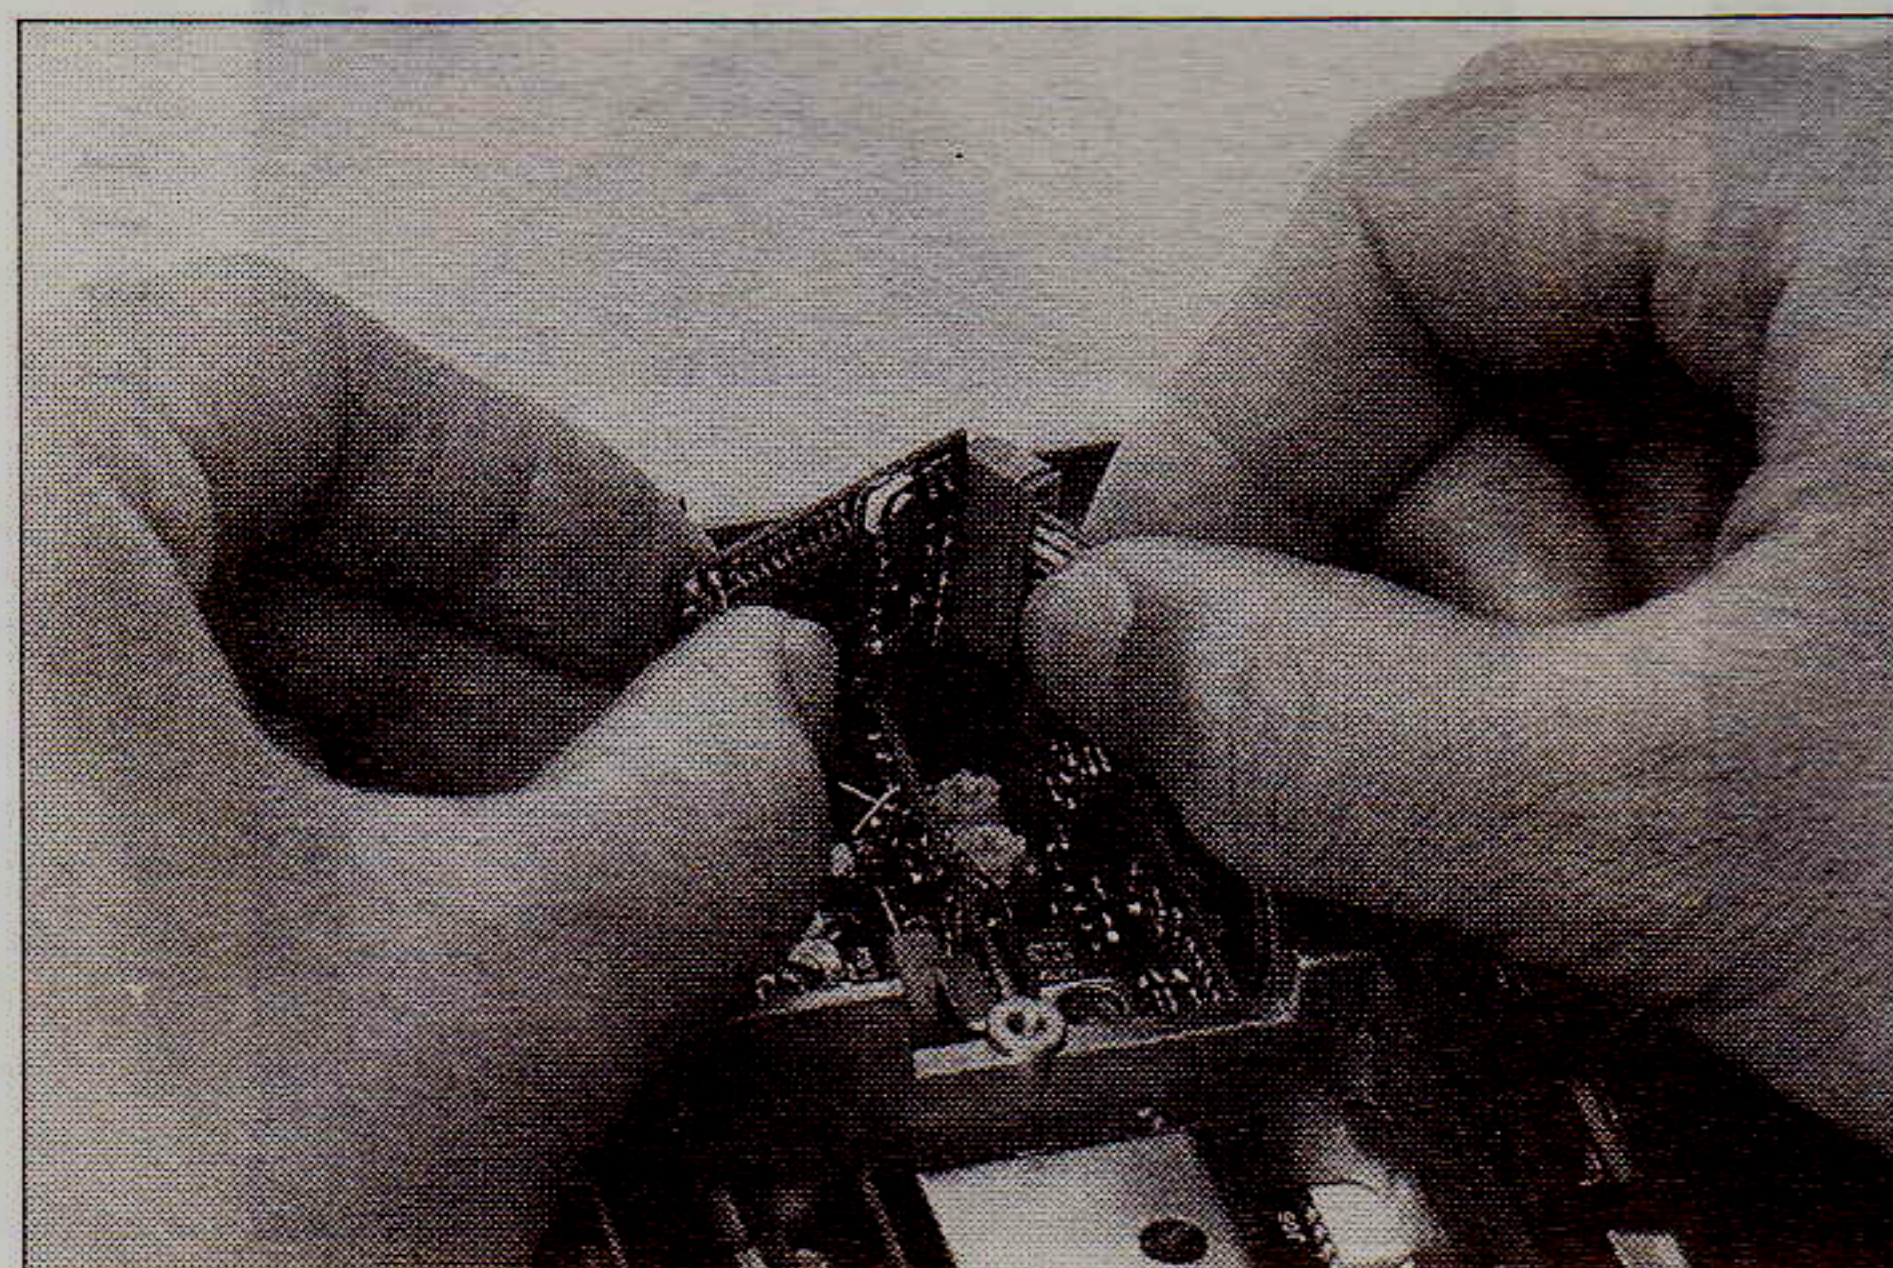

Figure 3
- (4) Locate the unconnected brown 10-pin connector at the front of the speaker compartment. Align the small tab on one side of this connector with the hole in one side of the jack on the FTS-12, and mate these connectors (Fig. 3).